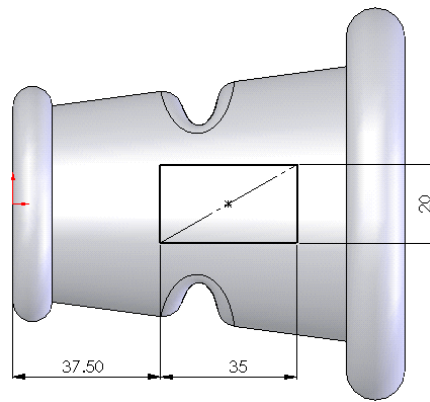

Figure 15-107 Sketch to create projected curve
4. Invoke the sketching environment with the newly created plane as the sketching plane and create the sketch as shown in Figure 15-107 and exit the sketching environment.